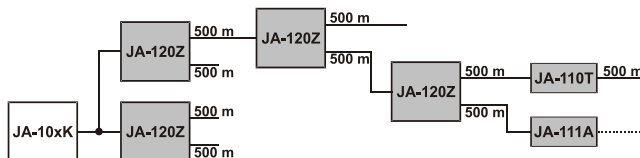

Figure 2: 2 – Extending the BUS length for another 2x 500 m by each JA-120Z unit
- Extending the BUS for more than 1x 500 m (JA-101K) or 2x 500 m (JA-106K), see Figure 2.
Extending the BUS (Figure 2)